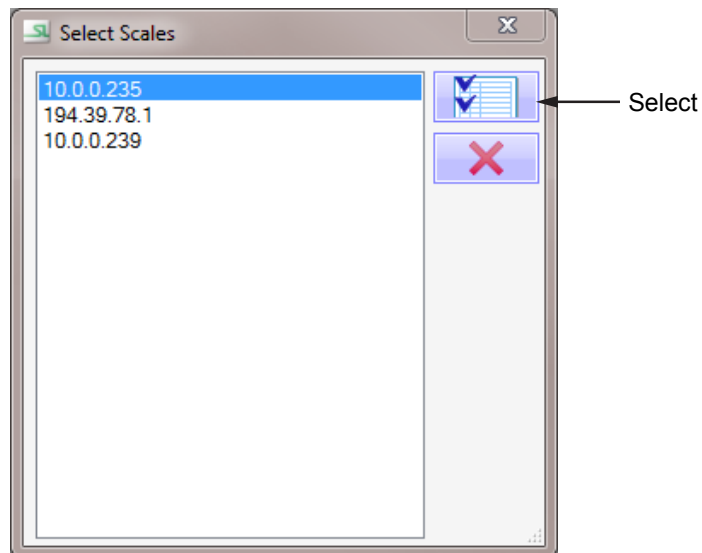

Figure 51-2
3. Select Comms, Send to Scale, All Data in Database from the menu or select the Send to Scale icon from the tool bar. The Select Scales window will display. See Figure 51-2.